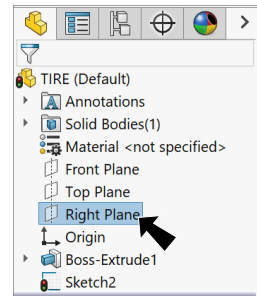

Fig. 11
Step 12. Click **Right Plane**  in the Feature Manager to select plane, **Fig. 11**.